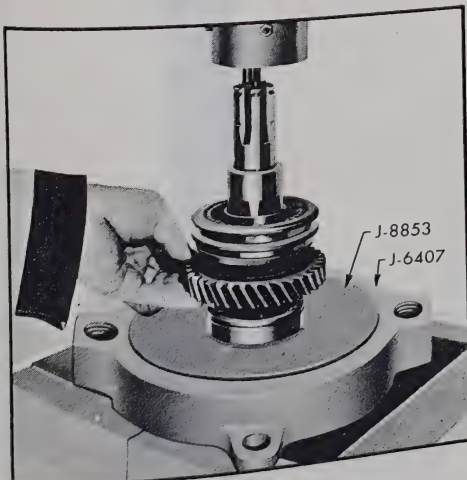
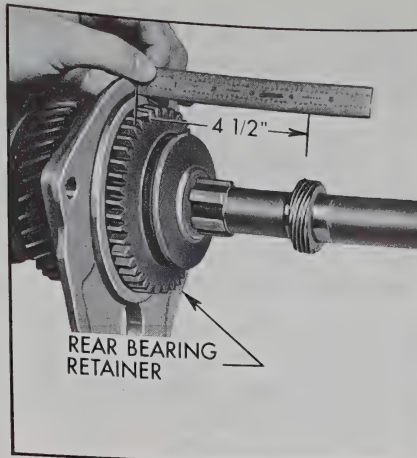

Figure 4-138—Installing Speedometer Drive Gear
Figure 4-139—Measuring Speedometer Drive Gear
13. Press speedometer drive gear onto the mainshaft, using a J-8853, press plate. (See Figure 4-138). Position the speedometer gear to get a measurement of 4-1/2" from the center of the gear to the flat surface of the rear bearing retainer. (See Figure 4-139).